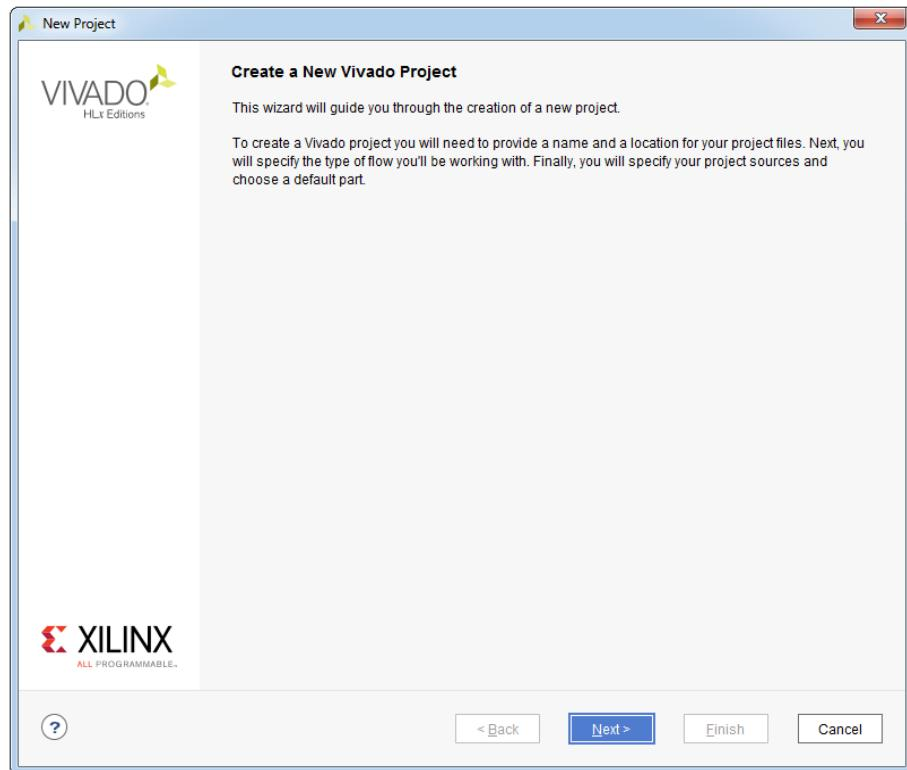

Figure 12.3: Create a New Vivado Project dialog box
2. In the **Create a New Vivado Project** dialog box, click **Next**, see Figure 12.3.